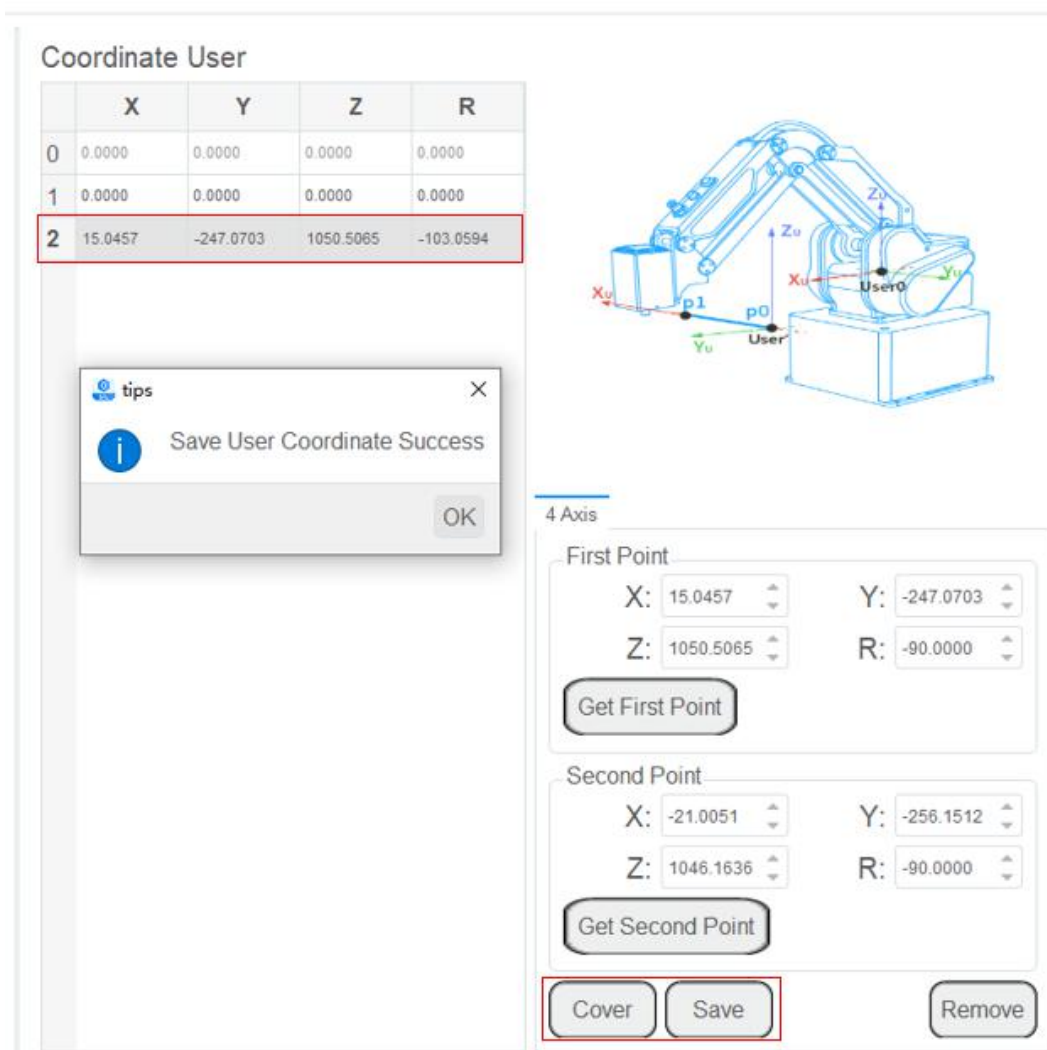
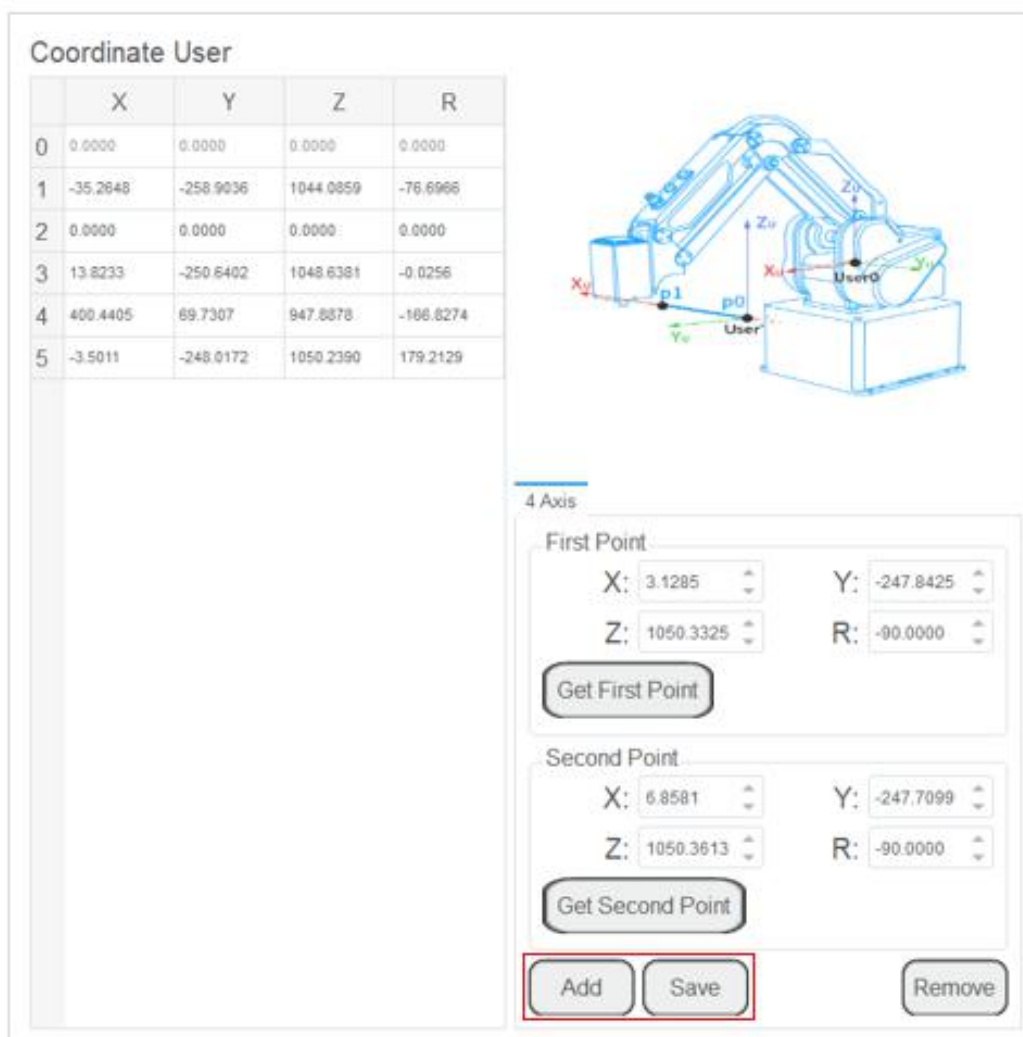

Figure 3.26 Click Cover to generate a coordinate system
Figure 3.27 Click Add to generate a coordinate system
- Step 4** Click **Cover** and **Save** to generate the User 2 coordinate system, as shown in Figure 3.26. If you do not select an existing coordinate system, you can repeat Step1~Step3, and then click **Add** and **Save**, as shown in Figure 3.27.